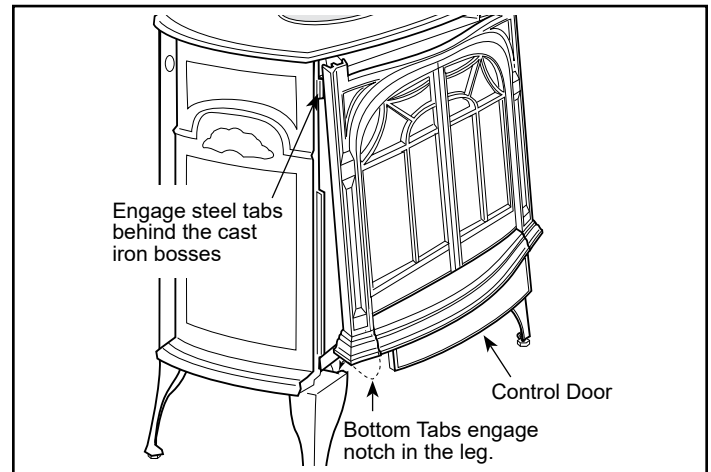

Figure 2.11 - Install the Front Plate. Your Front may look different from that shown.
2. Grasp the front plate by the window bars and lift into position engaging the two steel tabs behind the adjacent bosses in the side plates, Figure 2.11. Seat the front against the sides so the tabs at the bottom lip engage with the notches in the stove legs.